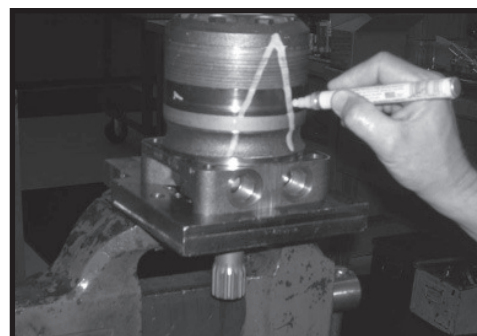

Figure 3
2. Scribe an alignment mark down and across the Torqmotor™ components from end cover (2) to housing (18) to facilitate reassembly orientation where required. Loosen two shuttle or relief valve plugs (21) for disassembly later if included in end cover. 3/16 or 3/8 inch Allen wrench or 1 inch hex socket required. SEE FIGURES 3 & 4.